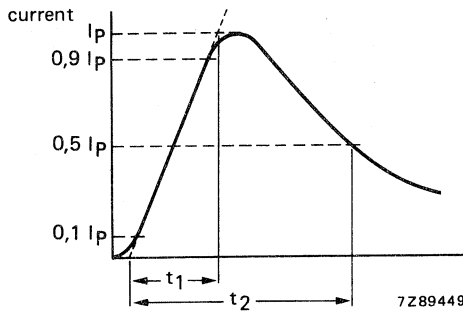

Fig. 5.
6. High energy surges are generally of longer duration. The max. energy for 1 minute 10/1000 μs is given as a reference for long duration impulses. This impulse can be characterized by peak current I_p and impulse width t_2 (virtual time to half I_p value, defined in IEC 60-2 section 6), see Fig. 5. If V_p is the clamping voltage corresponding to I_p , the energy absorbed in the VDR is determined by equation $E = K \cdot V_p \cdot I_p \cdot t_2$; K depends on t_2 . When t_1 is 8 to 10 μs and $t_2 = 20 \mu\text{s}$, $K = 1$; when $t_s = 50 \mu\text{s}$, $K = 1,2$; when $t_2 = 100 \mu\text{s}$, $K = 1,3$; when $t_2 = 1000 \mu\text{s}$, $K = 1,4$.